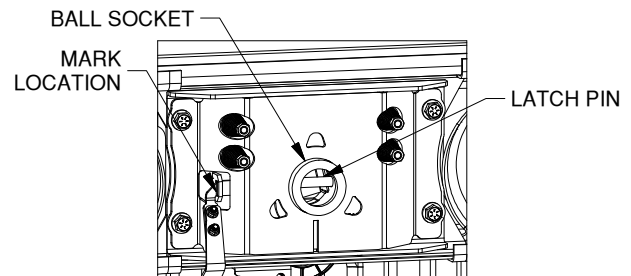

FIGURE G1: View under bed looking up at center section.
6. **Check latch pin engagement.** When installed properly, the latch pin mechanism should pass through both sides of the ball socket. With the ball removed, push handle toward the rear of the truck until the handle retracts and the latch pin engages. Visually inspect the ball socket and check to be sure the latch pin has passed completely through the socket. Make a mark on the latching mechanism where indicated in Figure G1 to show where the latching mechanism should be when the pin is correctly positioned in the ball socket. Retract the pin, replace the ball, and re-engage the pin. Check the marked location on the latching mechanism. If the mark is in the same location as when the mark was made, then the latch pin has gone completely through the ball socket.